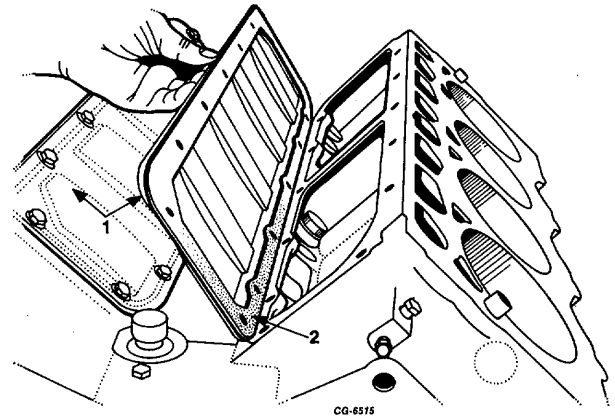

Fig. 50 Removing Tappet Cover
54. Remove fourteen attaching bolts in each tappet cover and remove cover and gasket (Figure 50).